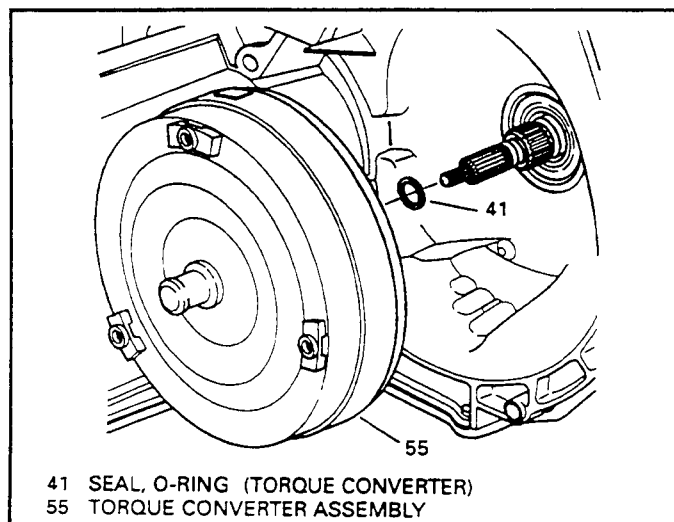

Figure 200
5. Install a new turbine shaft "O" ring into the turbine shaft "O" ring groove, as shown in Figure 200.
6. Remove the transaxle from the holding fixture and install the torque converter, as shown in Figure 200.